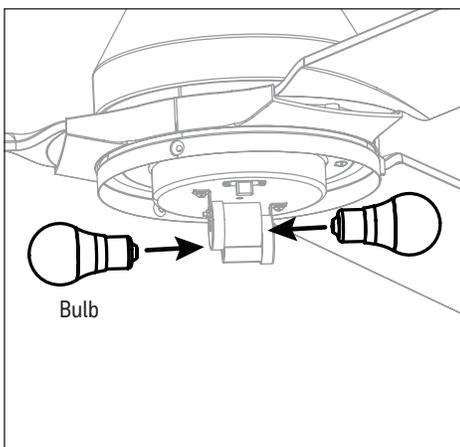

Figure 5.7
7. Install the E26-base LED bulbs into the sockets of the light kit. **Important:** Make sure you allow the bulbs and light kit to cool before you replace the bulbs (Figure 5.7).